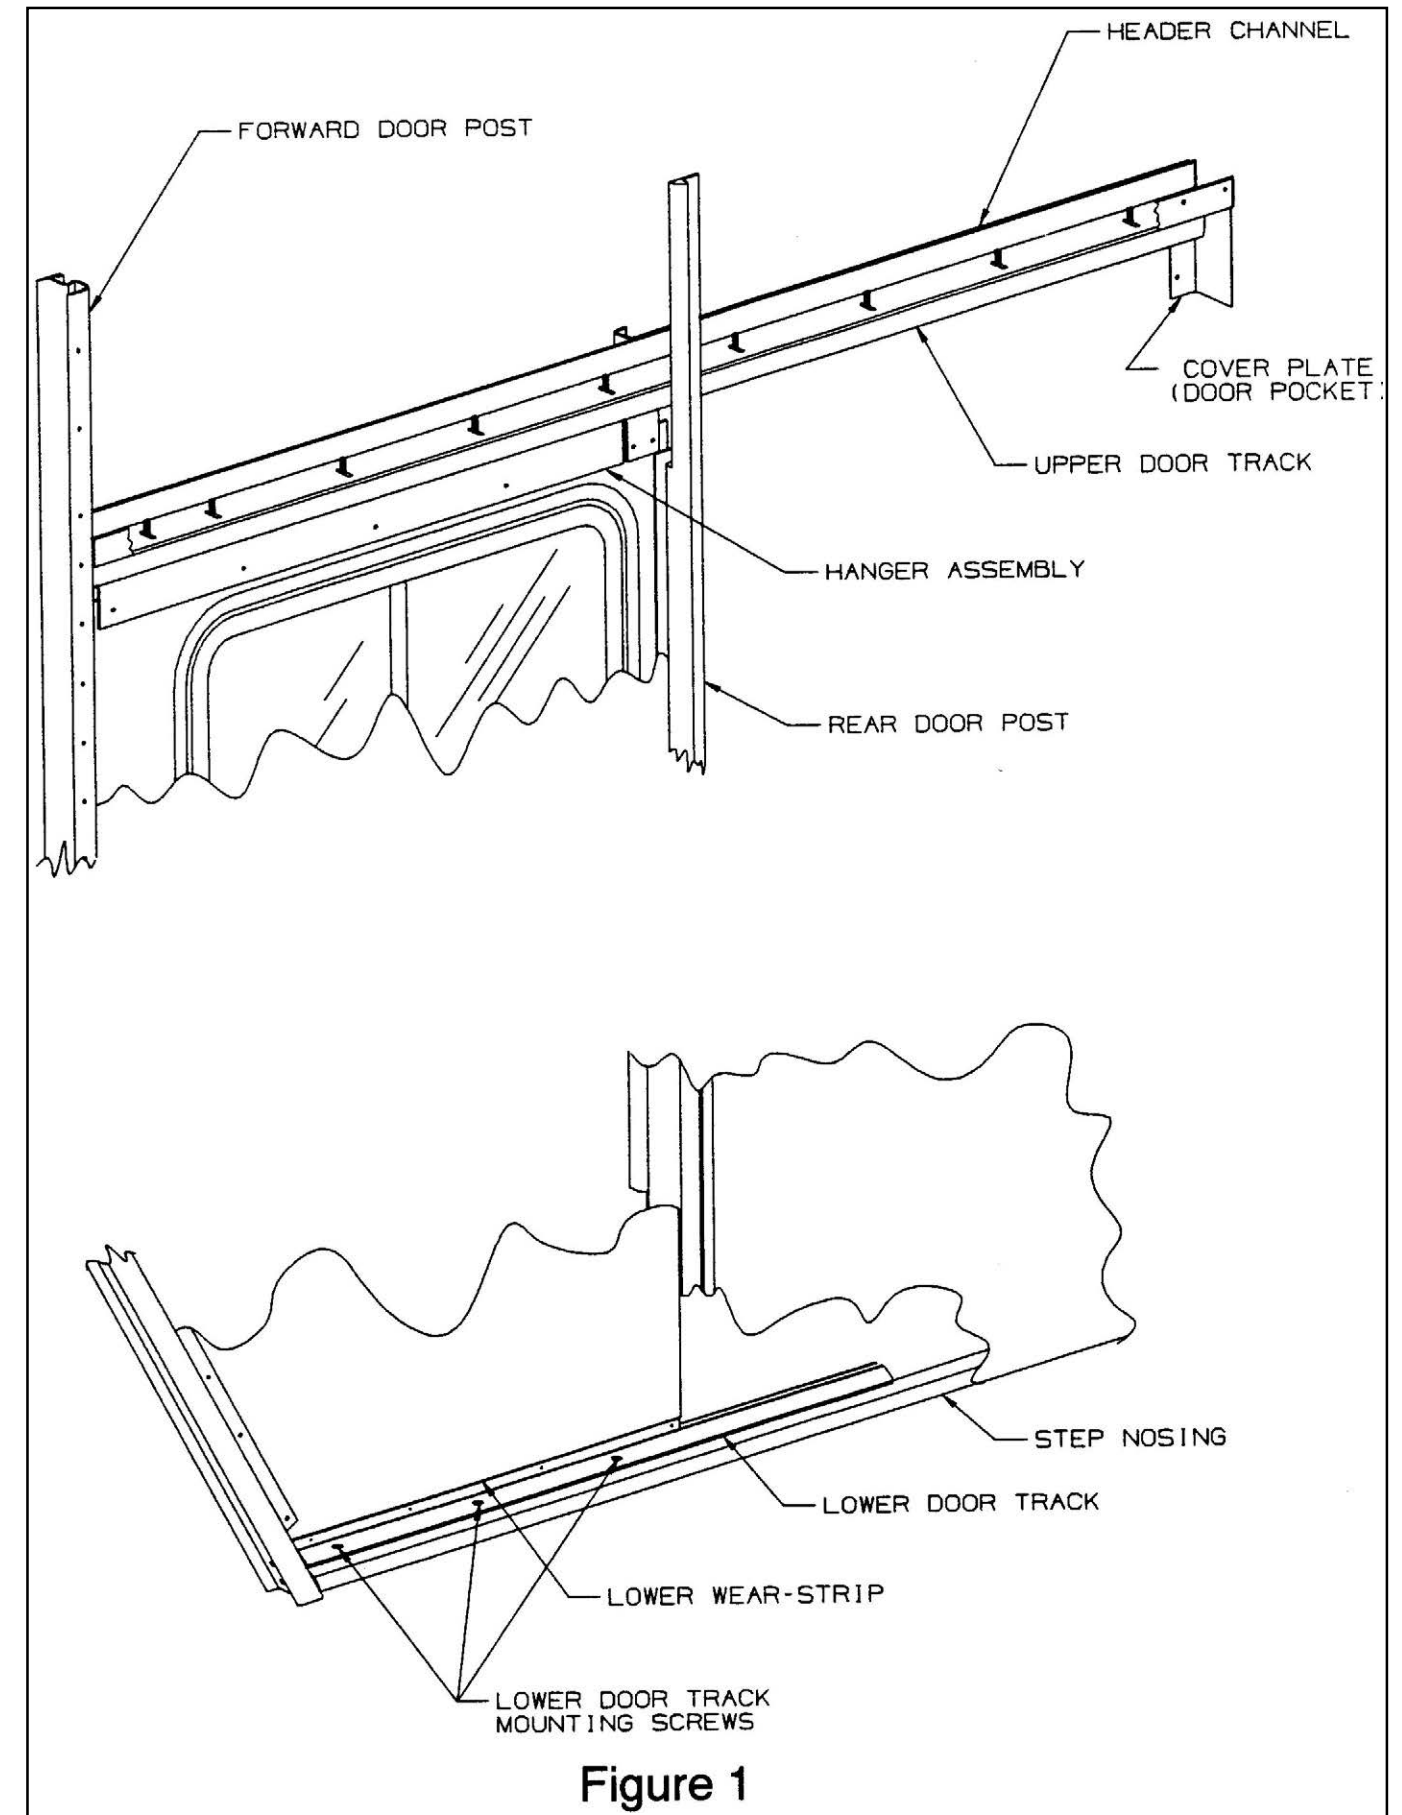

Figure 1
- 9 See figure 1 on the following page.